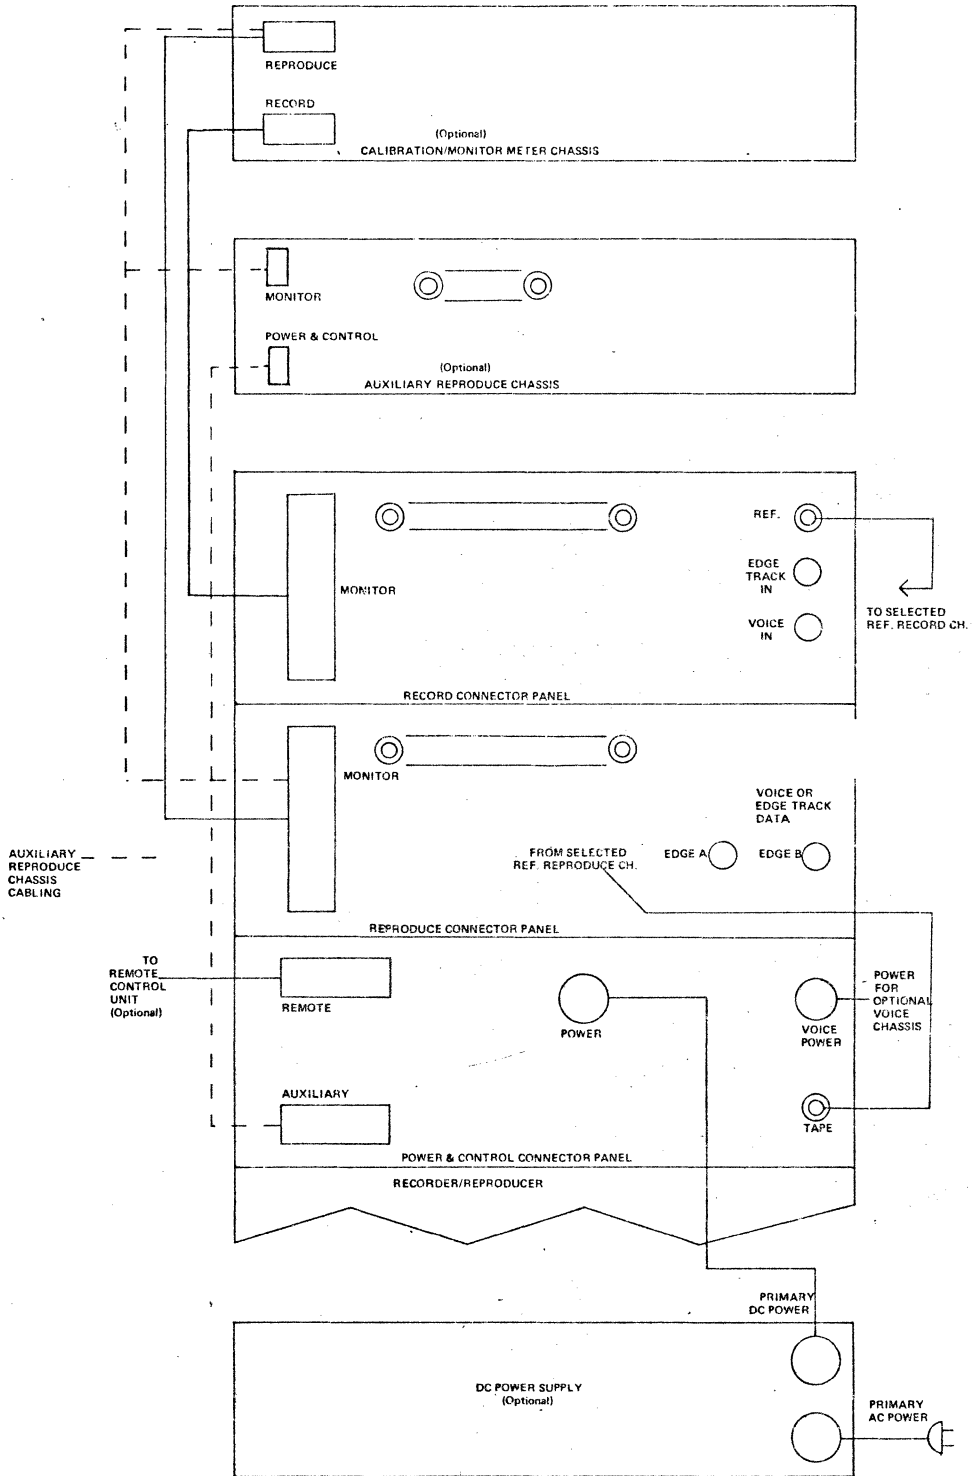

Figure 2. Typical Installation Cable Connections (right side of cabinet)
(2) WITH OPTIONAL POWER SUPPLY
- Step 2.* Connect this power cable between the power supply and the main power panel, refer to figure 2.
a. **RECORD** — The data signals to be recorded are to be connected to the standard BNC connectors on the record connector panel. The reference signal should be connected to the proper channel if tape synchronous is to be utilized, refer to figure 2.
b. **REPRODUCE** — The reproduce signals appear at the BNC connectors on the reproduce connector panel during the reproduce process. The tape synchronous signal must be applied to the TAPE BNC connector on the power connector panel, refer to figure 2.
b. CABLE ASSEMBLIES – When the system is installed ensure the following cable connections have been made properly. Refer to figure 2